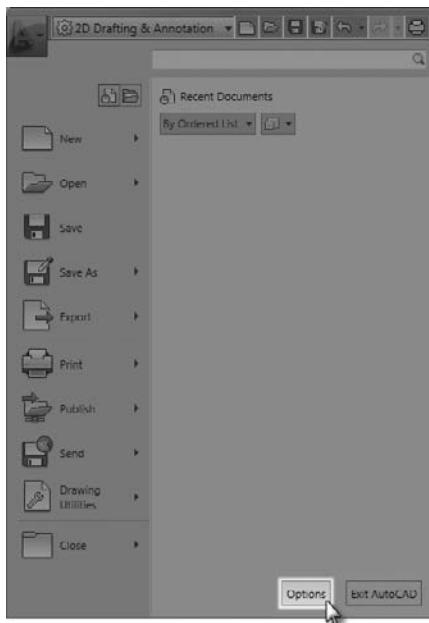

FIGURE 1.14 Click the Options button in the Application menu.
1. To access the OPTIONS command graphically, click the Application Menu button in the upper-left corner of the AutoCAD window, and then click the Options button at the bottom of the menu (see Figure 1.14). The OPTIONS command is also accessible from the command line by entering **OPTIONS..J**.